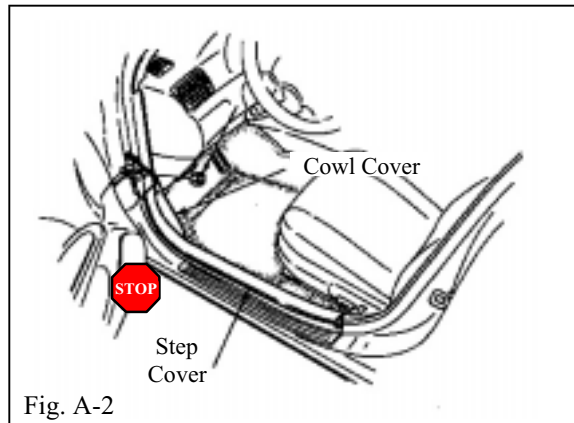

Fig. A-2
3. Loosen the front edge of the driver side step cover. Do not remove the side step cover. (Fig. A-2)
4. Lift the front edge of the step cover slightly and remove the driver cowl cover. (Fig. A-2)